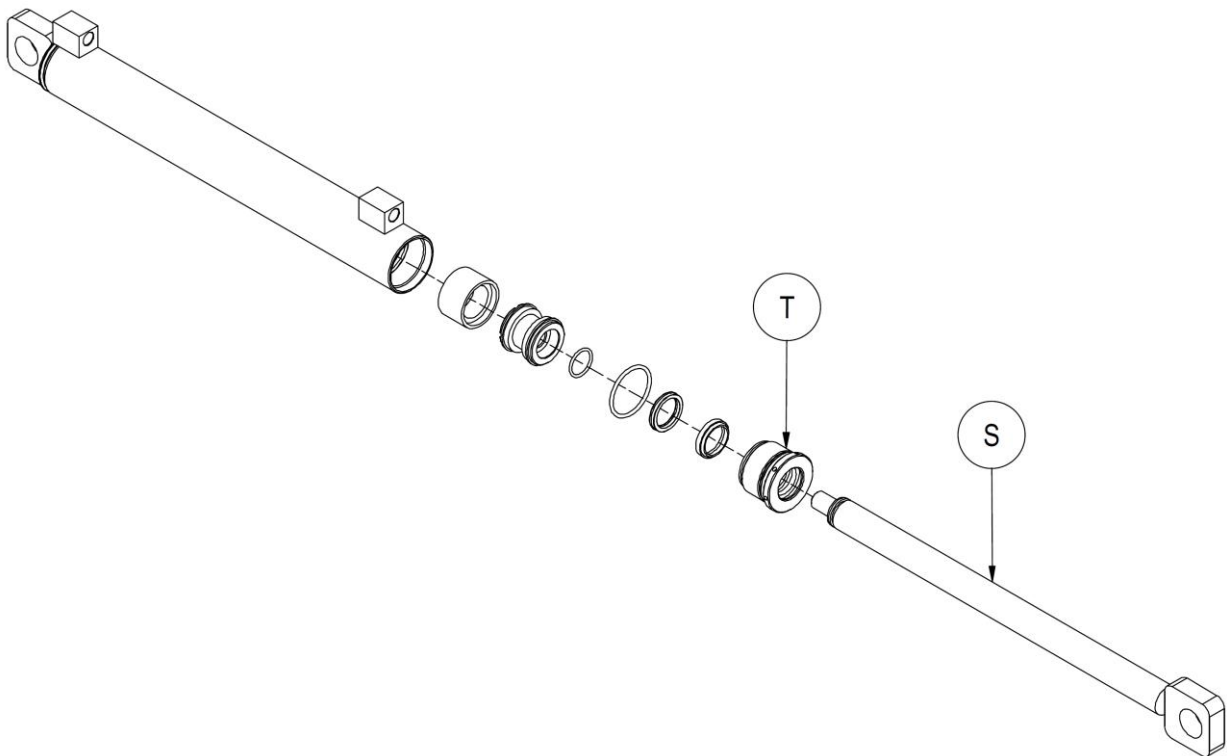

Figure 24
8. Use *Figure 24 as a guide*.